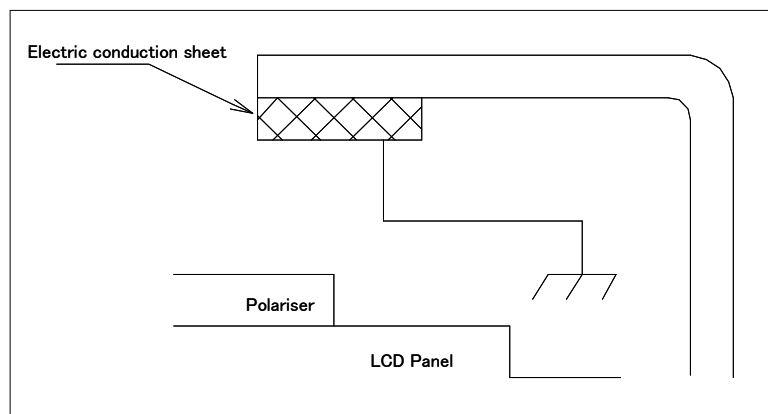

Figure 15-1 Design example
- (1) When adhering the module to a device, contact with the driver or conductive part of the substrate can cause electrical In leakage.
- (2) When attaching, please fix such that it is on the same level and make sure there is no stress such as warping or twisting on the module. When pressing the LCD surface after embedding, please take care that excess mechanical stress is not applied to the LC module.
- (3) In a set design that has no protective sheet in the panel front part for reducing surface reflection, when static electricity is applied to the panel peripheral part, there is the risk of electrostatic damage of the module so please design such that it is surrounded by the set cabinet up to the peripheral part of the polarizer and such that a conductive sheet or the like grounded to the rear side thereof is adhered to absorb static electricity. (Refer to Figure 15-1)